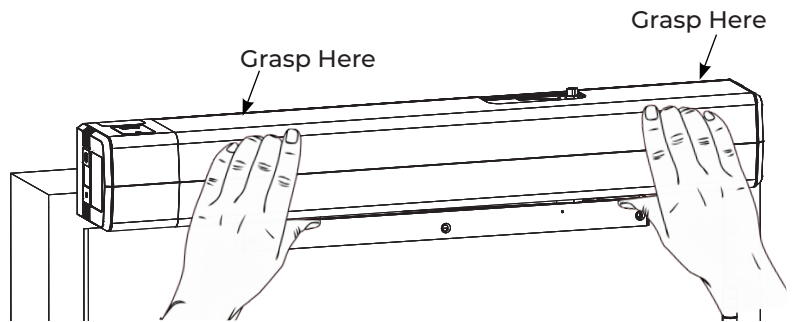

Fig. 2
1. Grasping at locations shown, pull cover off of unit. (Fig. 2)